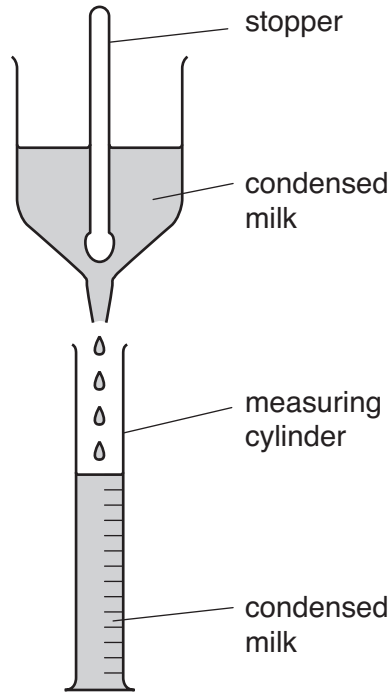

Fig. 1.5
- (f) Carrageenan is used as a thickening agent in condensed milk. It is important to ensure that the condensed milk has the correct viscosity. Some students decided to compare the viscosity of several types of condensed milk that contained carrageenan. They used the apparatus shown in Fig. 1.5.
- (ii) Suggest a modification to the apparatus shown in Fig. 1.5 so that the temperature of the samples can be kept constant.